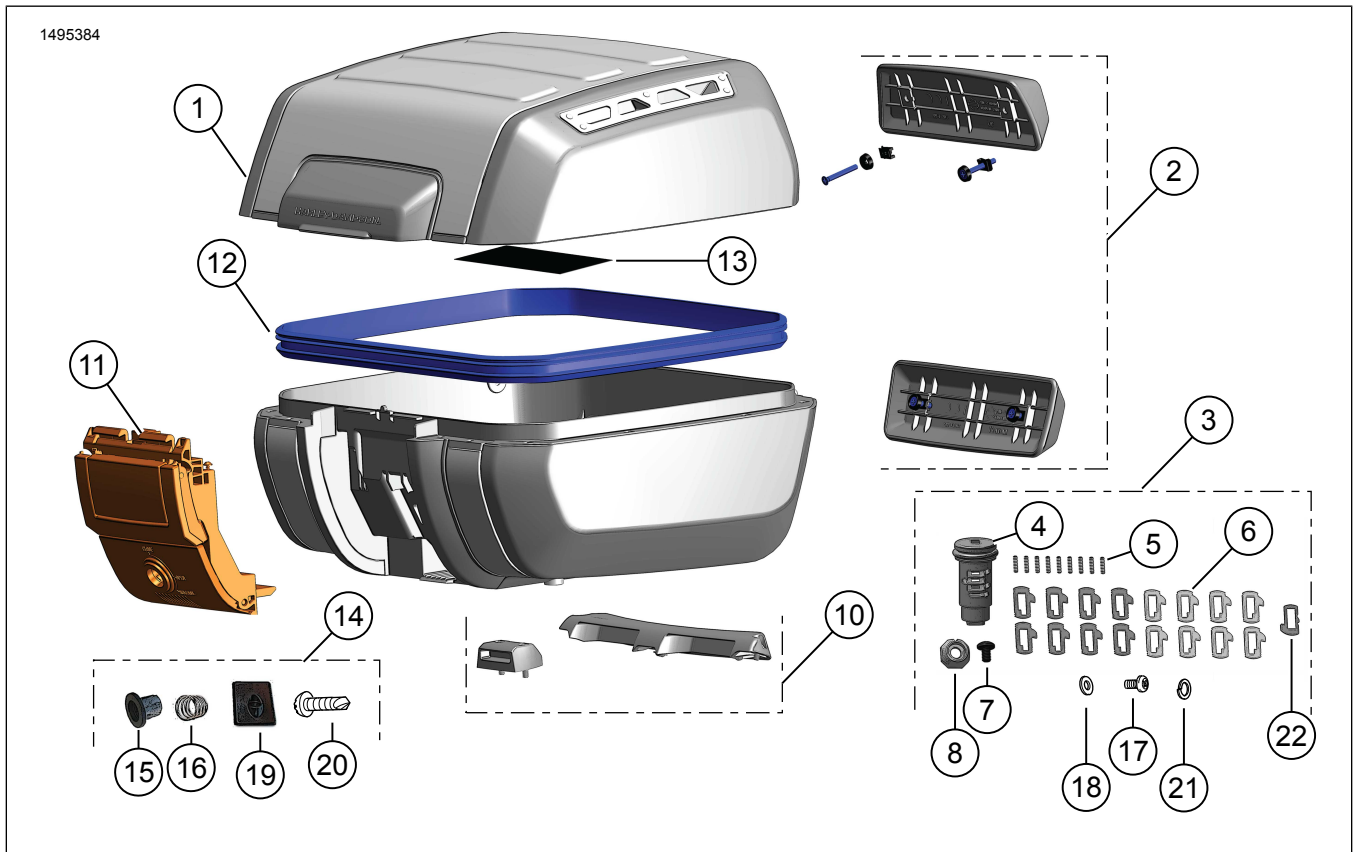
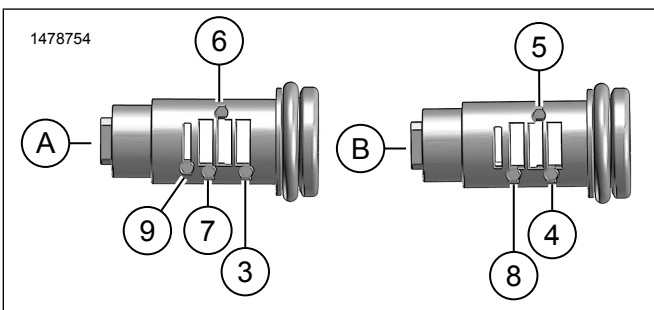

Figure 1. Kit Contents: Detachable Top Case
Figure 4. Spring and Tumbler Install Locations (Typical)
5. Figure 4 Install tumbler springs (5), see Figure 1, into holes at stations 3,6 and 7 on side (A) of cylinder sub-assembly.
6. Figure 4 Install tumblers (6), see Figure 1, #11-14 in stations 3,6 and 7 per tumble numbers determined in Table 3.
7. Figure 4 Install tumbler springs (5), see Figure 1, into holes at stations 4,5 and 8 on side (B) of cylinder sub-assembly.
8. Figure 4 Install tumblers (6), see Figure 1, #21-24 in stations 4,5 and 8 per tumble numbers determined in Table 3.